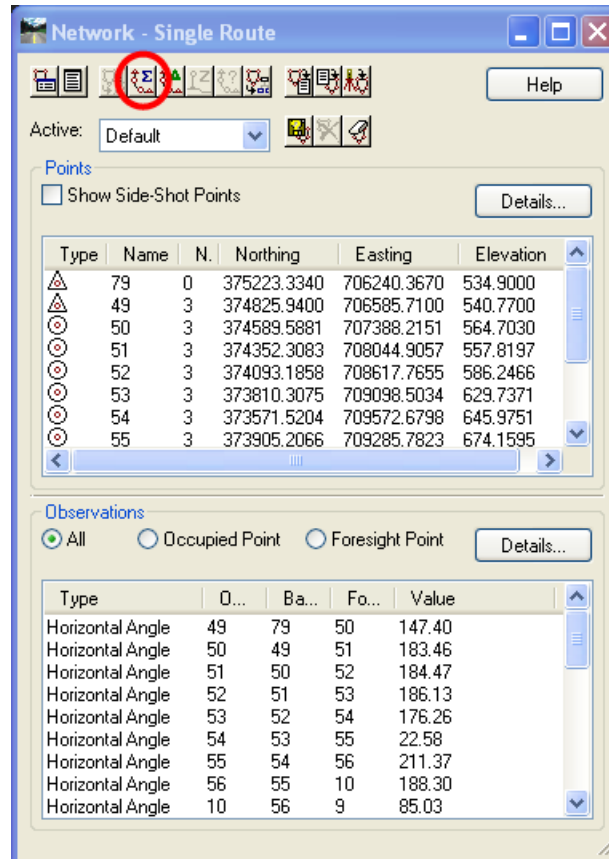

Figure 2-8 InRoads Network - Single Route Dialog Box
- D. This brings the Network data into the **Network - Single Route** dialog box (Figure 2-8). Data point on the Least Squares button.